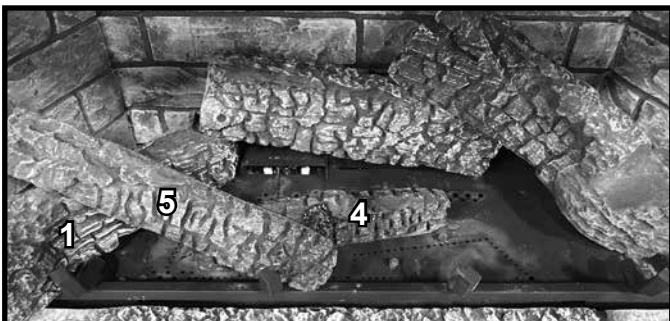

Figure 20. Log #5 Installed
**LOG #5:** Notch on burnout end of Log #5 rests on grate tine, bark end rests on notch of Log #1. Slide burnout end of log back until it touches Log #4. See Figure 20.